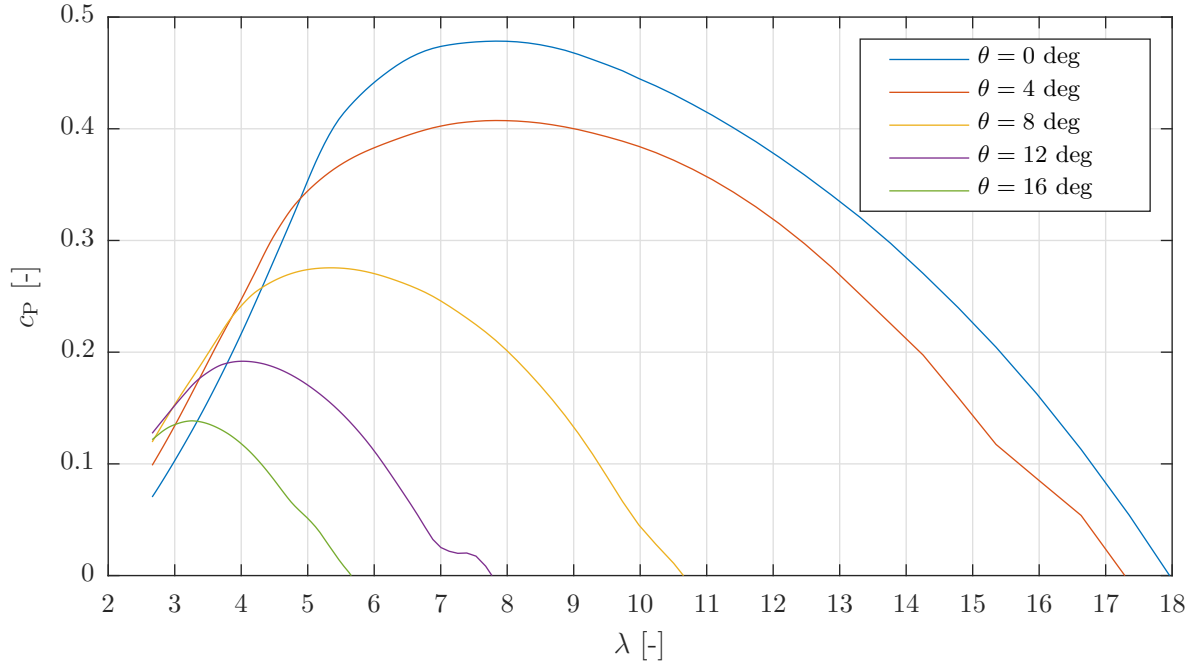

Figure 2: Power coefficient $c_p(\lambda, \theta)$ of the NREL 5 MW wind turbine model.
- The power coefficient is plotted in Figure 2.